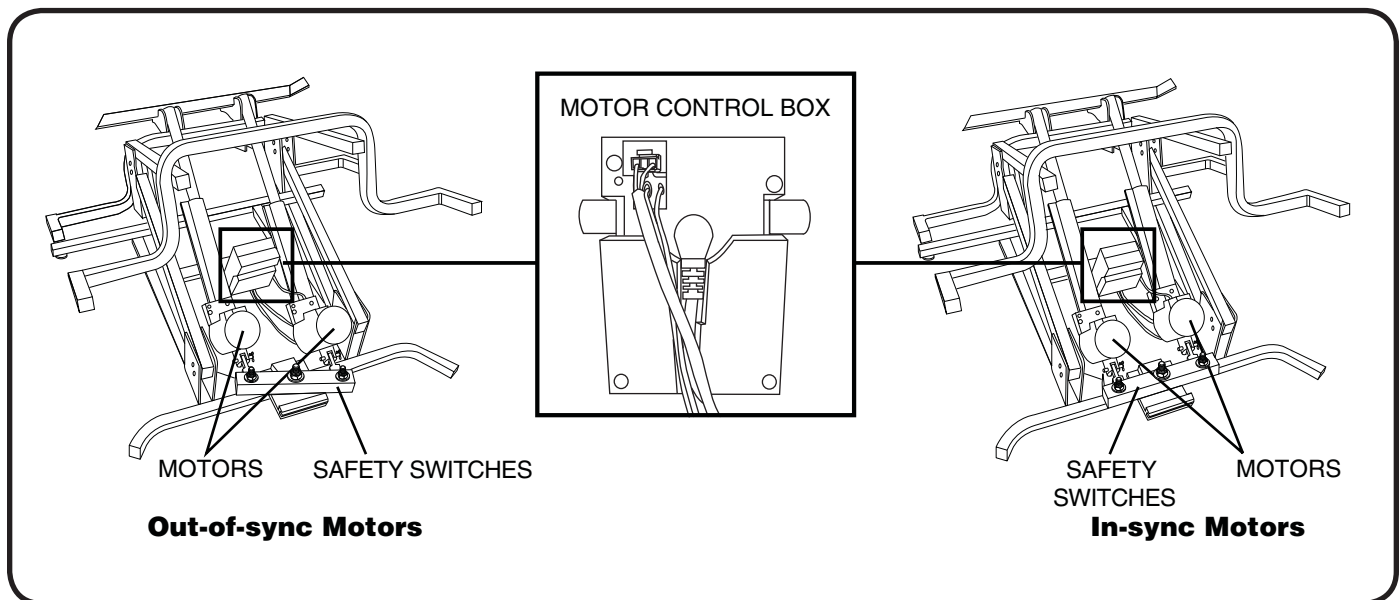

Figure 6.1 Dual Motor Timing
2. If the motors are out-of-sync, disconnect one of the two red safety switch plugs from the motor control box (**fig. 6.1**).
3. Activate the UP position on the hand control until your chair reaches the full lift position. This will reset the motor position and correct the timing (**fig. 6.1**).
4. Reconnect the red safety switch plug into the motor control box (**fig. 6.1**).